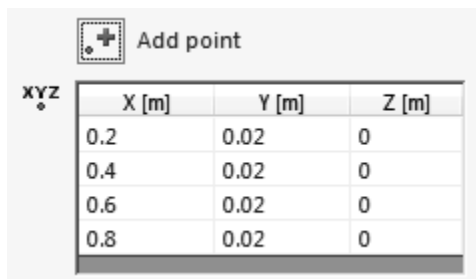
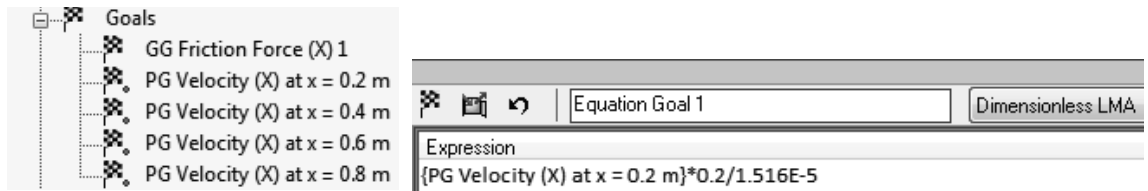

Figure 2.21e) Coordinates for point goals
Figure 2.21f) Renaming the point goals      Figure 2.21g) Entering an equation goal
21. Right click on **Goals** in the **Flow Simulation analysis tree** and select **Insert Global Goals...** Select **Friction Force (X)** as a global goal. Exit the **Global Goals** window. Right click on **Goals** in the **Flow Simulation analysis tree** and select **Insert Point Goals...** Click on the  $\begin{matrix} x \\ y \\ z \end{matrix}$  **Point Coordinates** button. Enter **0.2 m** for X coordinate and **0.02 m** for Y coordinate and click on the **Add Point** button  $\begin{matrix} + \\ \bullet \end{matrix}$ . Add three more points with the coordinates shown in figure 2.21e). Check the **Value** box for **Velocity (X)**. Exit the **Point Goals** window. Rename the goals as shown in figure 2.21f). Right click on **Goals** in the **Flow Simulation analysis tree** and select **Insert Equation Goal...** Click on **PG Velocity (X) at x = 0.2 m** goal in the **Flow Simulation analysis tree**, multiply by  $0.2$  (for  $x = 0.2$  m) and divide by  $1.516E-5$  (kinematic viscosity of air at room temperature ( $\nu = 1.516E-5$  m2/s) to get an expression for the Reynolds number in the **Equation Goal** window, see figure 2.21g). Select **Dimensionless LMA** from the dimensionality drop-down menu. Exit the **Equation Goal** window. Rename the equation goal to **Reynolds number at x = 0.2 m**. Insert three more equation goals corresponding to the Reynolds numbers at the three other  $x$  locations. For a definition of the Reynolds number, see page 2-21.